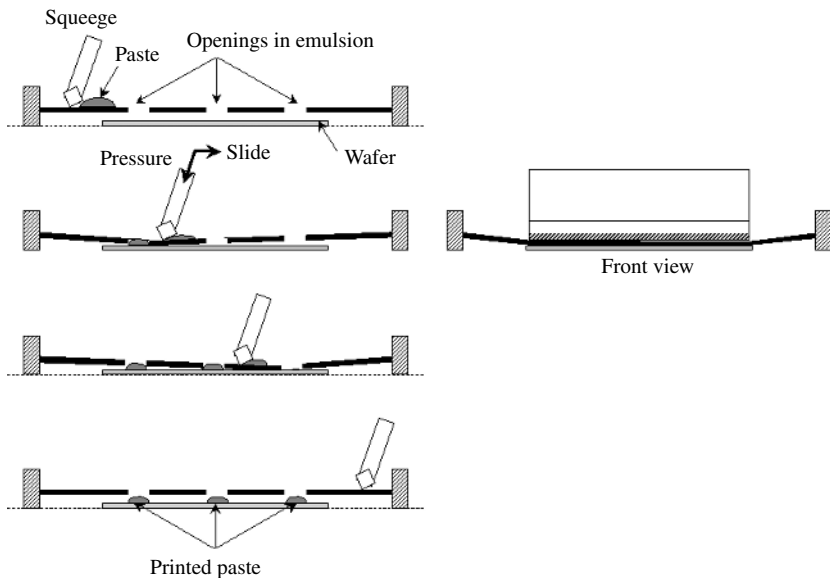

Figure 7.9 Illustration of a printing sequence
3. *Printing*: Figure 7.9 illustrates the process of printing a paste through the patterned emulsion on a screen. The screen and the wafer are not in contact, but a distance apart called the *snap-off*. After dispensing the paste, pressure is applied to the squeegee, which can be made of metal or rubber: this puts the screen in contact with the wafer. The squeegee is then moved from one side of the screen to the opposite one, dragging and pressing the paste in front of it. When an opening is reached, the paste fills it and sticks to the wafer, remaining there after the squeegee has passed and the screen has elastically retired.